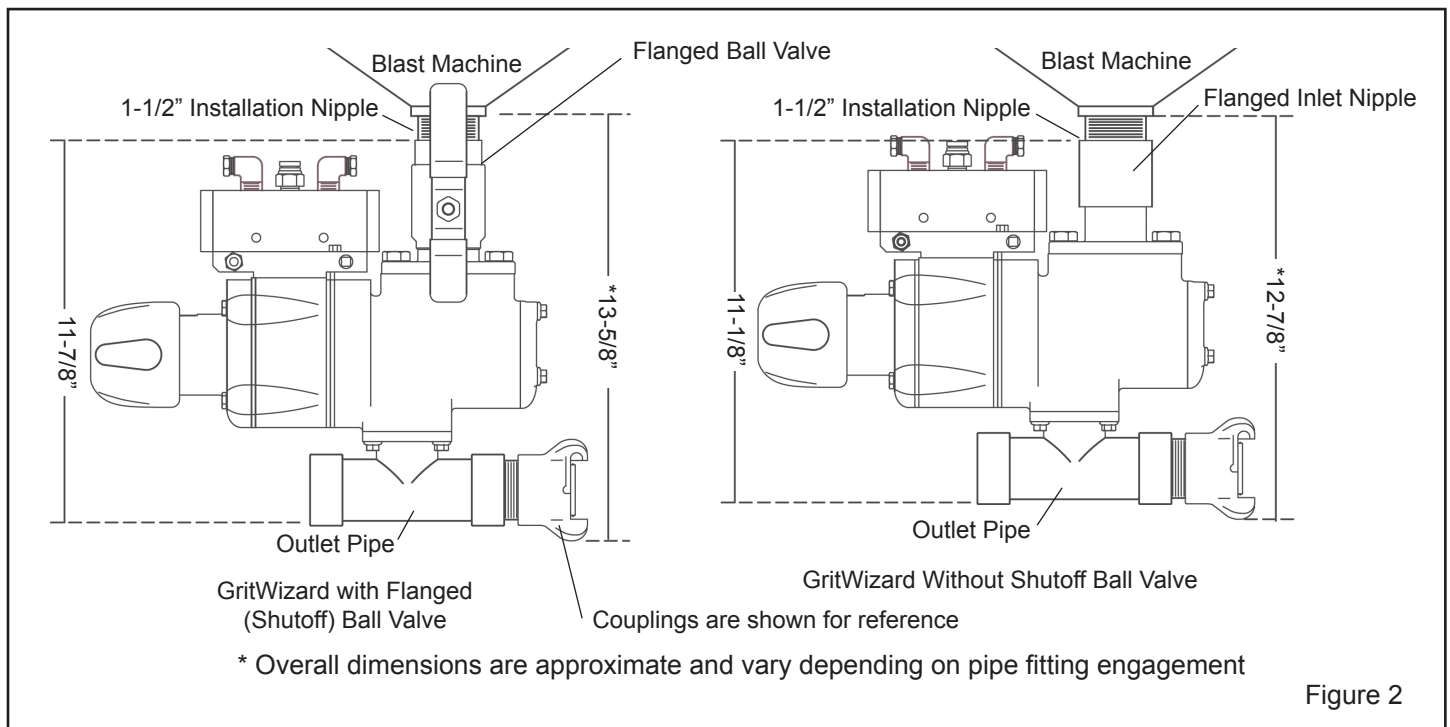

Figure 2
2.1.3 Before removing the existing metering valve, refer to Figure 2 to determine the ground clearance required for each of the valve options. Besides the height of the GritWizard Valve, an additional 1-3/4" is needed to allow for the installation nipple and blast hose coupling. Measure the distance from the bottom of the blast machine to ground level to make sure the blast machine has the clearance to accommodate the valve.